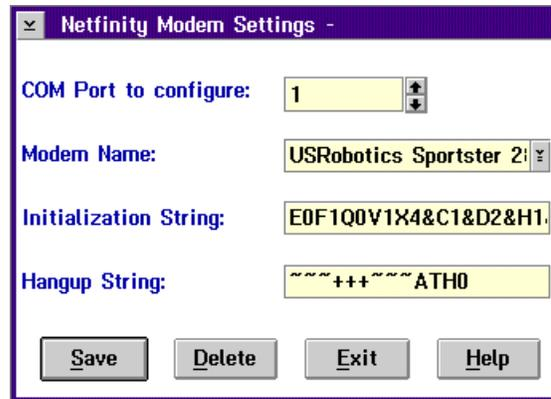

Figure 106. Serial Control Modem Settings
7. Configure your modem to a particular port by selecting **Modem Settings**. You will see a window like that in Figure 106 on page 147.